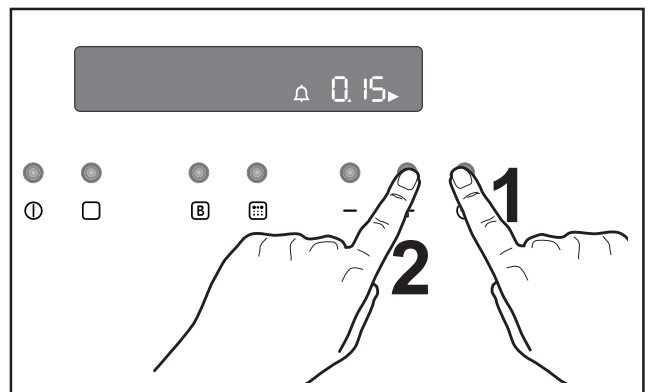

Fig. 8
1. Press time function button  to select the Minute Minder Function. The relevant symbol  will flash and the control panel will display "0.00" (Fig. 8).